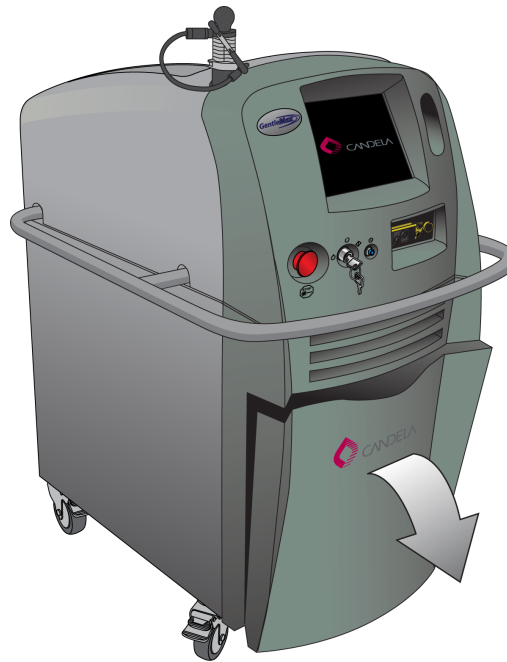
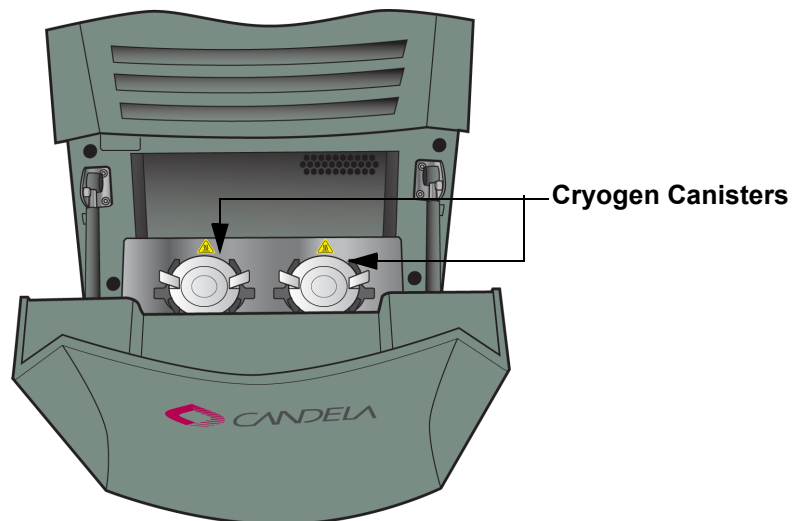

Figure 4-8: Open the DCD Door
Figure 4-9: Cryogen Canisters Inside the DCD Drawer
2. Open the front DCD door (see **Figure 4-8**) by grasping the indented handle on the front of the laser and pulling the door towards you to reveal the cryogen canisters (see **Figure 4-9**).